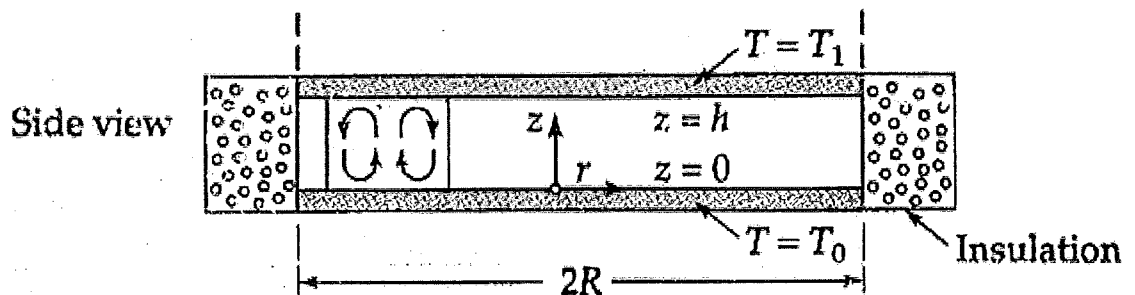

Figure 2 - two horizontal parallel plates with the bottom plate at a higher temperature than the upper one.
- [b] Two large parallel horizontal metal plates are separated by a 3.5 cm air gap, with the air at an average temperature of 120°C . Calculate how much hotter may the lower plate be (than the upper plate) without causing the onset of the cellular free convection as shown in Figure 2 below. Show how much may this temperature difference be increased if a very thin metal sheet is placed midway between the two plates.